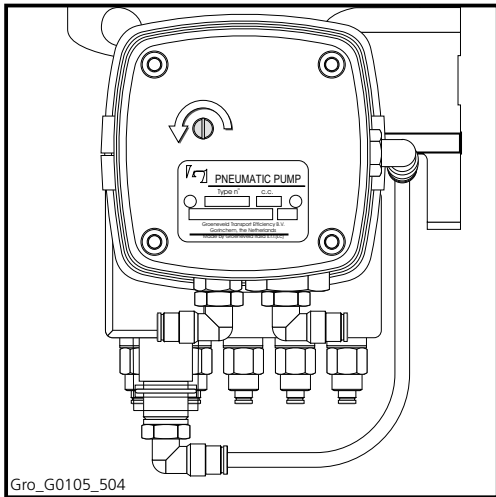

Figure 5.5 Test screw
1. Push the test screw inward and slowly turn it anti-clockwise, until a greasing cycle (if running) is finished (air will now escape from the pump). (Figure 5.5)